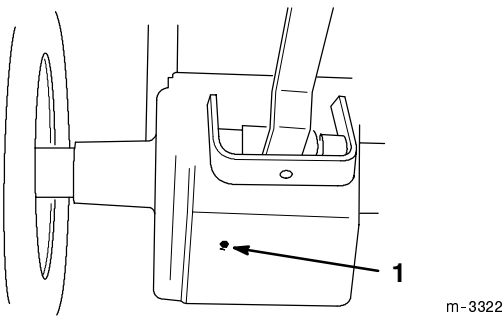

Figure 47
5. Open the drain by removing the plug (Fig. 47).